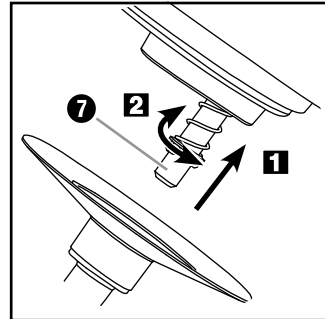

Fig. 2: Fitting the attachments
- 6) Depending on what you want to do, fit the dough hook **10**, whisk **11** or beater **12** on the motor shaft **7** (Fig. 2):
- Put the dough hook **10**, whisk **11** or beater **12** (referred to below as "attachment") on the motor shaft **7** so that the two metal pins on the motor shaft **7** engage in the recesses on the attachment **10 11 12** (Fig. 2 / **1**).
- Press the attachment **10 11 12** firmly onto the motor shaft **7** so that the spring compresses while turning the attachment **10 11 12** slightly anticlockwise (direction ) (Fig. 2 / **2**).